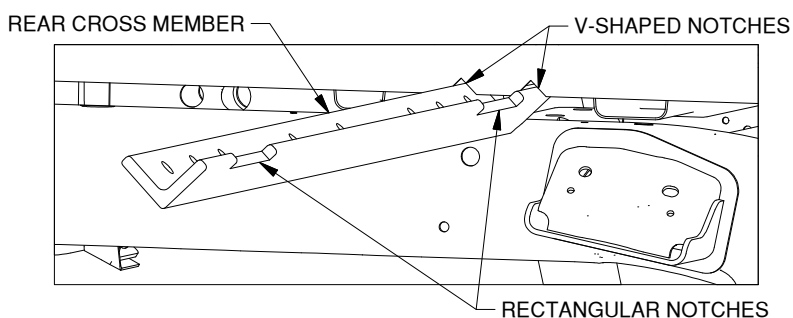

Figure C1: Looking into passenger side wheel well.
- Position rear cross member.** Locate the rear cross member and the area where the V-shaped notches were cut. Orient the rear cross member so the leg with the rectangular notches is toward the front of the truck. Slide the rear cross member through the V-shaped notches and between the bed and the frame until it spans the driver and passenger frame rails, as shown in Figure C1. Rotate the rear cross member so the leg with the rectangular notches is vertical. The leg with the holes should be flat against the top of the frame toward the rear of the truck.